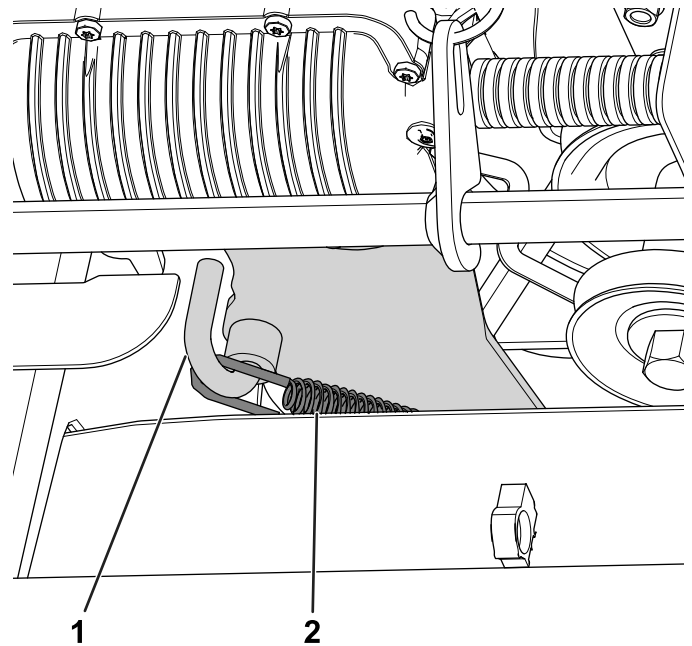

Figure 13
7. Attach the brake cable to the brake-arm hook (Figure 13).